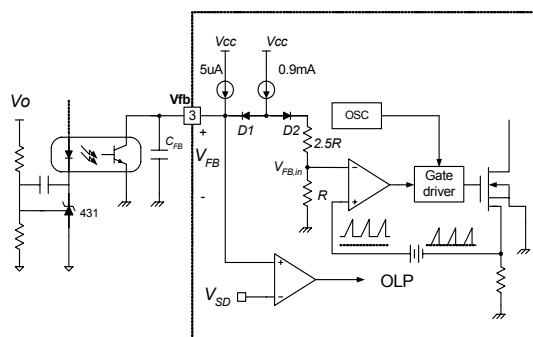

Figure 5. Pulse Width Modulation (PWM) Circuit
**2. Feedback Control :** The FSDx321 employs current mode control, as shown in Figure 5. An opto-coupler (such as the H11A817A) and shunt regulator (such as the KA431) are typically used to implement the feedback network. Comparing the feedback voltage with the voltage across the Rsense resistor plus an offset voltage makes it possible to control the switching duty cycle. When the KA431 reference pin voltage exceeds the internal reference voltage of 2.5V, the opto-coupler LED current increases, the feedback voltage Vfb is pulled down and it reduces the duty cycle. This event typically happens when the input voltage is increased or the output load is decreased.
**4.4 Over Voltage Protection (OVP) :** In the event of a malfunction in the secondary side feedback circuit, or an open feedback loop caused by a soldering defect, the current through the opto-coupler transistor becomes almost zero (refer to Figure 5). Then,  $V_{FB}$  climbs up in a similar manner to the over load situation, forcing the preset maximum current to be supplied to the SMPS until the over load protection is activated. Because excess energy is provided to the output, the output voltage may exceed the rated voltage before the over load protection is activated, resulting in the breakdown of the devices in the secondary side. In order to prevent this situation, an over voltage protection (OVP) circuit is employed. In general,  $V_{CC}$  is proportional to the output voltage and the FPS uses  $V_{CC}$  instead of directly monitoring the output voltage. If  $V_{CC}$  exceeds 19V, OVP circuit is activated resulting in termination of the switching operation. In order to avoid undesired activation of OVP during normal operation,  $V_{CC}$  should be properly designed to be below 19V.